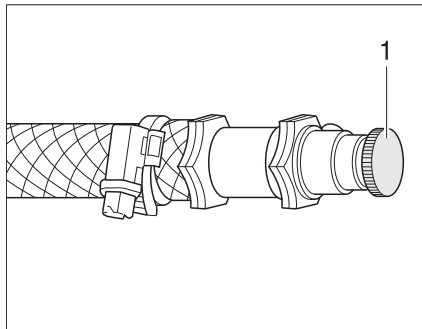

Fig. 153 Bleeding valve of hot-water heater
- Open the bleeding valve (Fig. 153,1) and leave it open until no more air escapes.